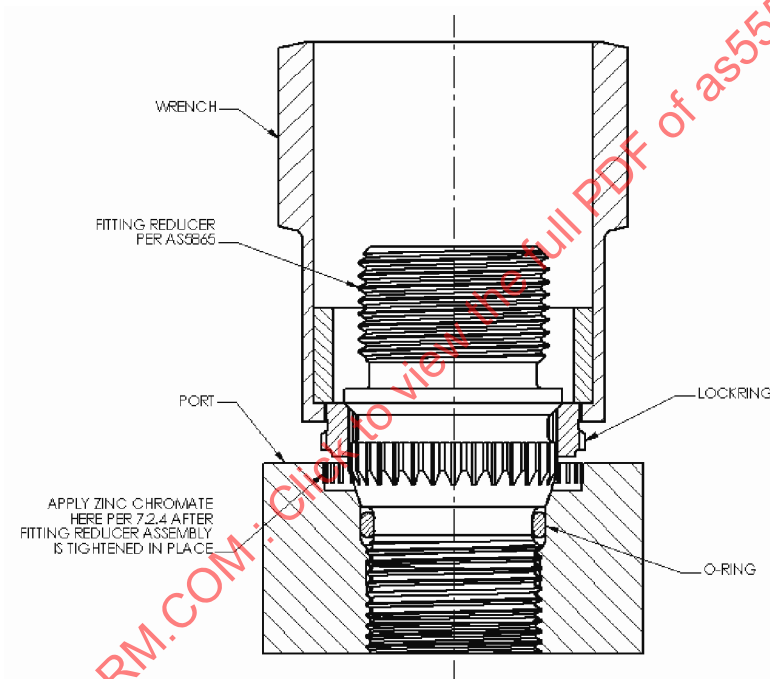

FIGURE 8 - Torquing Fitting Reducer Assembly
- 7.2.3 Using the applicable wrench in Table 2B, engage the serrations of the tool with the external serrations of the locking per Figure 8. Place a torque wrench of the proper size over the hex of the wrench and apply a torque equal to the minimum value specified in Table 2A. Note the relationship of the locking serrations with respect to the prebroached serrations in the port. If they match, proceed to 7.2.4. If the locking serrations do not match the prebroached serrations in the port, continue to slowly torque toward the maximum value allowed in Table 2A until the serrations match. This will normally take between 3° and 8° of turning, the maximum value need not be reached if the serrations align themselves prior to that value. Do not exceed maximum torque values.